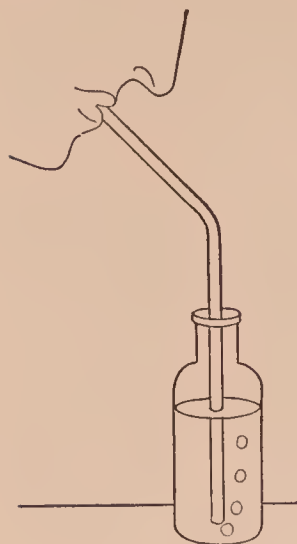

FIG. 75. — Breathing into calcium hydroxide solution
- (c) (1) Expose calcium hydroxide solution to the air, and (2) exhale the breath through calcium hydroxide solution (Fig. 75). Note each result. Conclude what is the product.